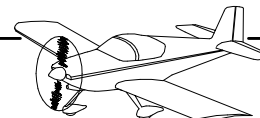

**FIGURE 3:
Step 8: Dimple the nutplate attach rivet holes using a 3/32 dimple die as called out in Figure 3.